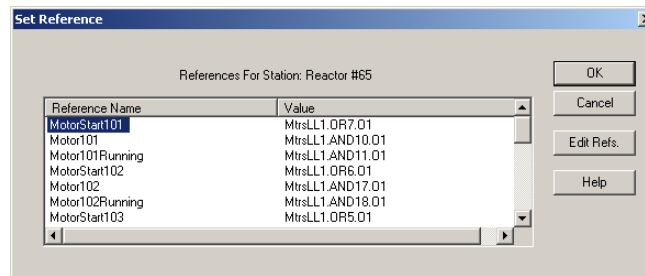

Figure 3-14 Set Reference dialog
3. Click **[Edit Input]**. The Set Reference dialog opens. See Figure 3-14.